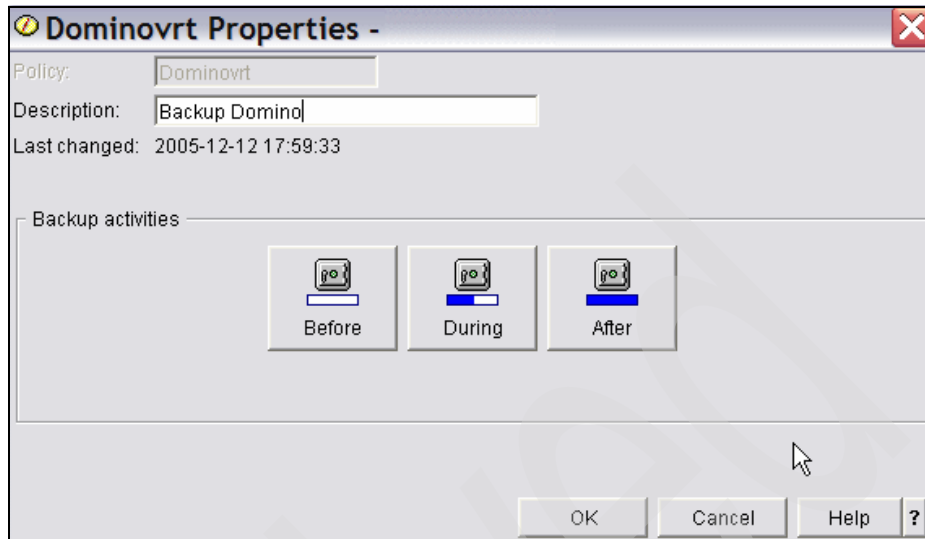

Figure 5-59 BRMS move policy change, select During
5. Click **During** in the Properties window shown in Figure 5-59 on page 245.
10. In the Properties window (shown in Figure 5-59 on page 245), click **After**.